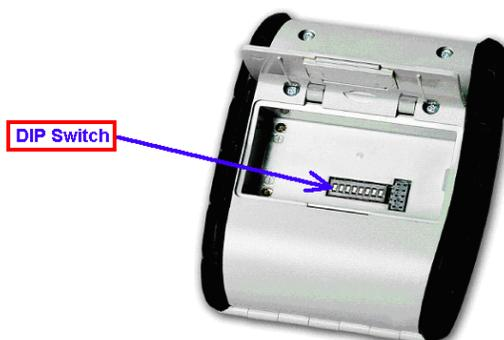

FIGURE 10: DIP SWITCH LOCATION
- The 2500THS printers support Serial RS232 and IrDA compatible infrared communication interfaces. Radio frequency (RF) Bluetooth™ communication is also available as an optional feature.
- Serial, IrDA and Bluetooth communication settings can be changed via a DIP switch located on the control card as shown in Figure 10.